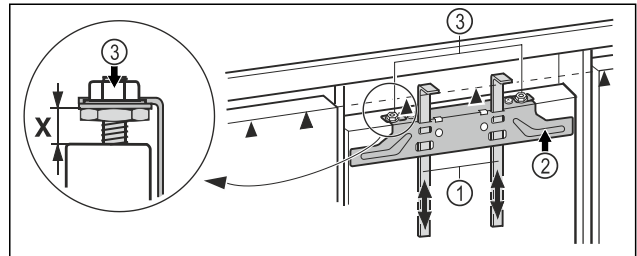

Fig. 41
- Push the assembly aids Fig. 41 (1) up to the height of the unit door. Lower stop edge ▲ of the assembly aid = upper edge of the cabinet door to be mounted.
- Unscrew the fastening crossbeam Fig. 41 (2) using the lock nuts Fig. 41 (3).